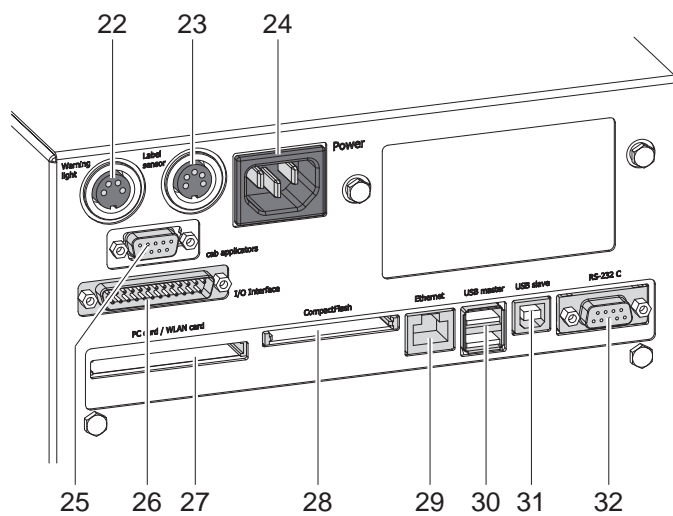

Fig. 3 Connections
The standard available interfaces and connectors are shown in figure 3.
2. Plug the power cable into the power connection socket (24 / fig. 3).
Additionally the control panel has an USB master port (1) with the same functionality like the ports (30 / fig. 3) at the back side of the print module as well as a slot (2) for a CompactFlash memory card. The USB port is covered with a cap.
A CF memory card in the control panel has to be used as "Ext. CompactFlash (CFEXT)", a memory card in the slot (27 / fig. 3) at the back side of the print module as "CompactFlash (CF)". ▷ Configuration Manual.